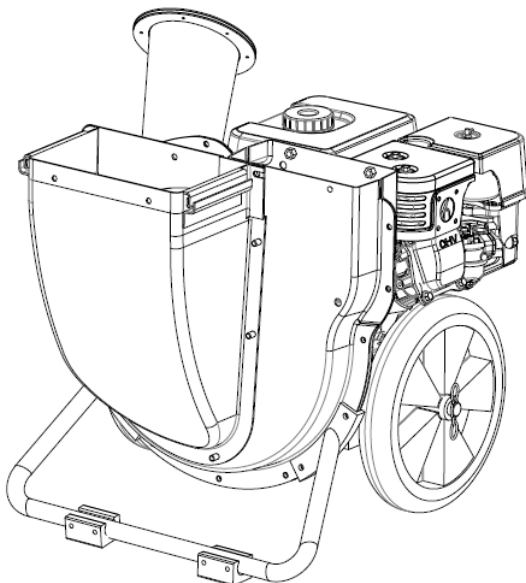

Figure 6
7. Attaching the lower leaf funnel section. (Figure 6)